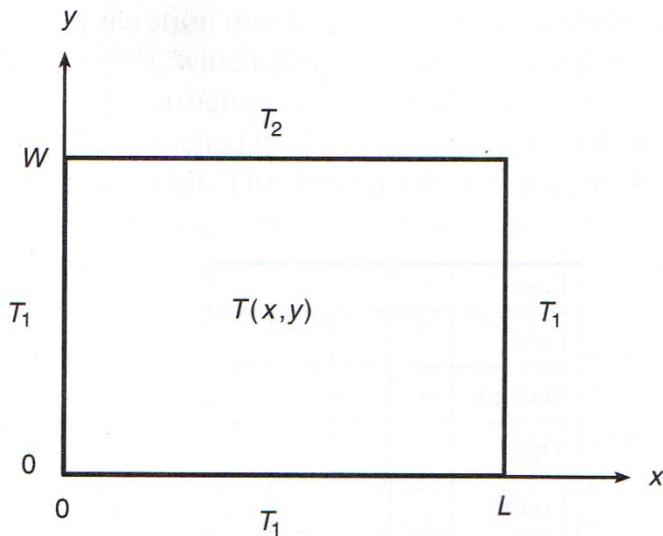

Figure P38
38. Many applications require us to know the temperature distribution in an object. For example, this information is important for controlling the material properties, such as hardness, when cooling an object formed from molten metal. In a heat-transfer course, the following description of the temperature distribution in a flat, rectangular metal plate is often derived. The temperature is held constant at T_1 on three sides and at T_2 on the fourth side (see Figure P38). The temperature $T(x, y)$ as a function of the xy coordinates shown is given by